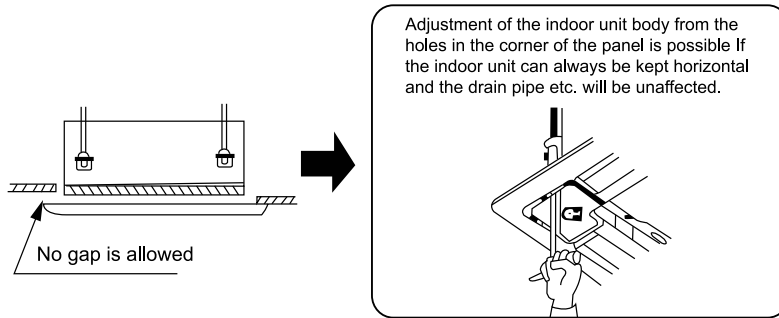

Fig.32
- (3). If gap still exists between ceiling and decoration panel after tightening the screws, readjust the height of the indoor unit. (Fig.32)